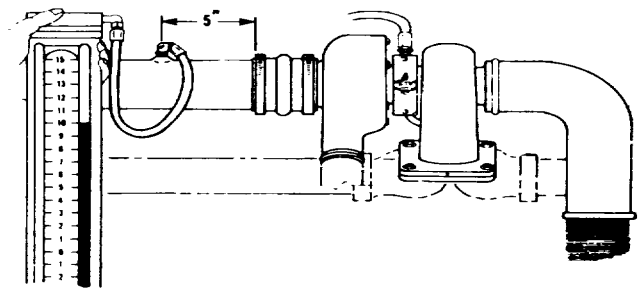

Figure 16L-2. Checking the Air Inlet Restriction
1. Check the inlet air restriction by attaching a vacuum gauge or water manometer in the air intake piping. The adapter must be at a right angle to the air flow and one pipe diameter up-stream from the turbocharger, Figure 16L-2.